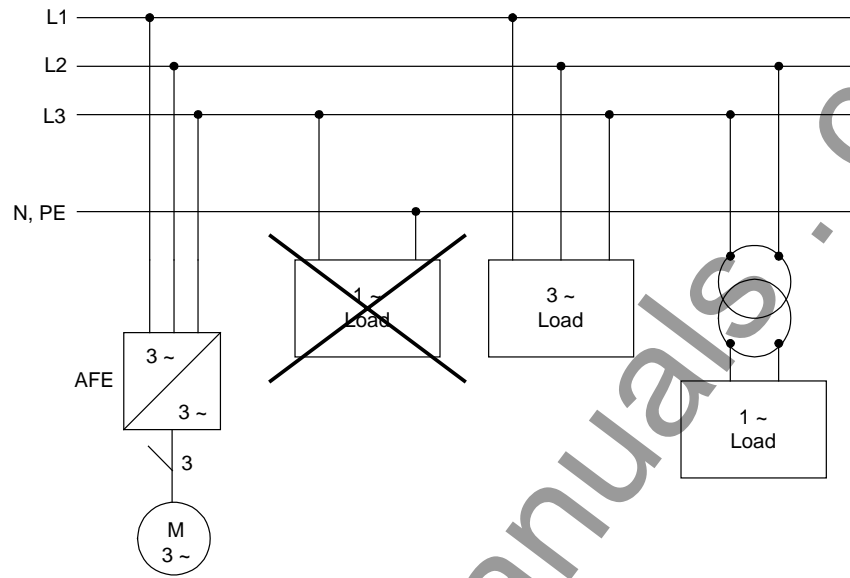

Fig. 4-1 Application note relating to AFE and single-phase loads
- To eliminate the effects of other loads, the application note in Fig. 4-1 must be observed.